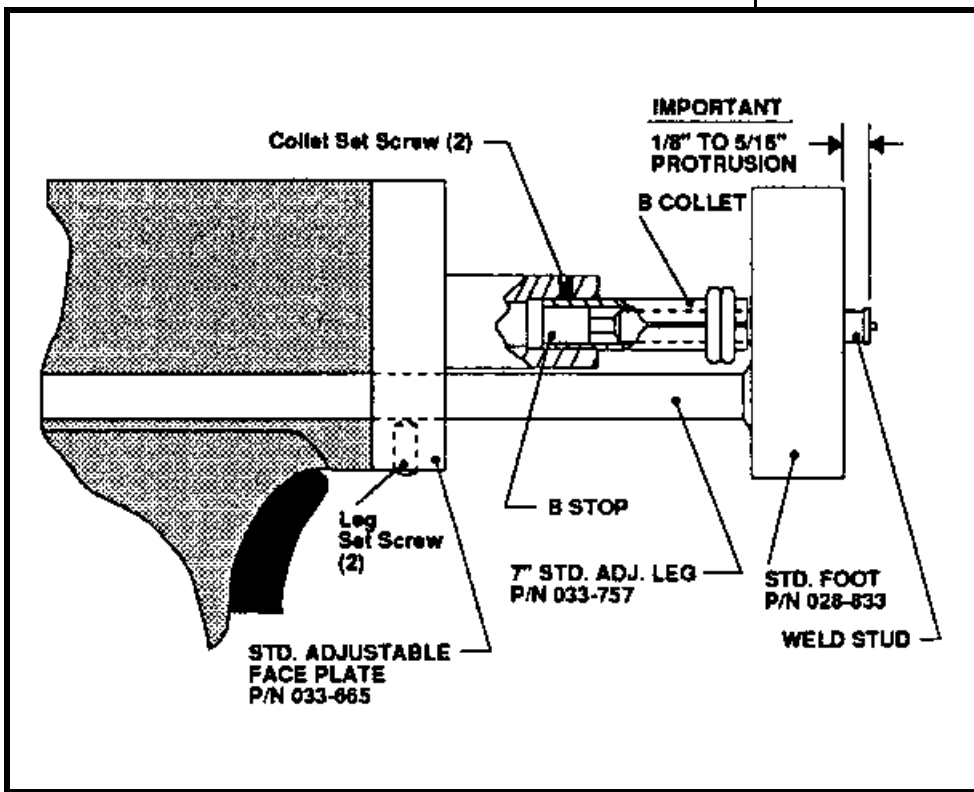

Figure 6 Standard Gun Setup
11.3 GUN SET-UP FOR WELD PINS WITH COLLET PROTECTOR (see Figure 6)